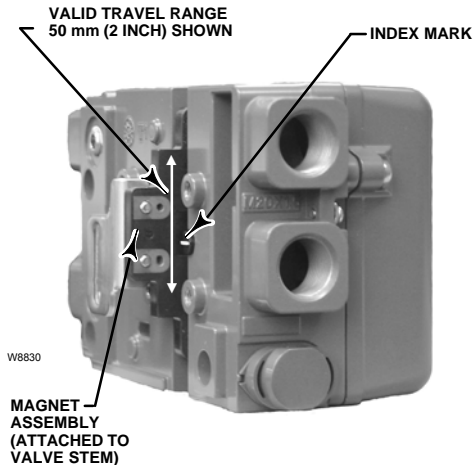

Figure 2-2. Travel Range
The linear magnet arrays have a valid travel range indicated by arrows molded into the piece. This means that the hall sensor (on the back of the DVC2000 housing) has to remain within this range throughout the entire valve travel. See figure 2-2.
in the feedback slot of the DVC2000 housing is between the valid range on the magnet assembly throughout the range of travel. See figure 2-2.
10. Check for clearance between the magnet assembly and the DVC2000 feedback slot. The magnet assembly should be positioned so that the index mark in the feedback slot of the DVC2000 housing is between the valid range on the magnet assembly throughout the range of travel. See figure 2-2.
8. Check for clearance between the magnet assembly and the DVC2000 feedback slot. The magnet assembly should be positioned so that the index mark on the pole pieces (back of the positioner housing) is between the valid range on the magnet assembly throughout the range of travel. See figure 2-2.